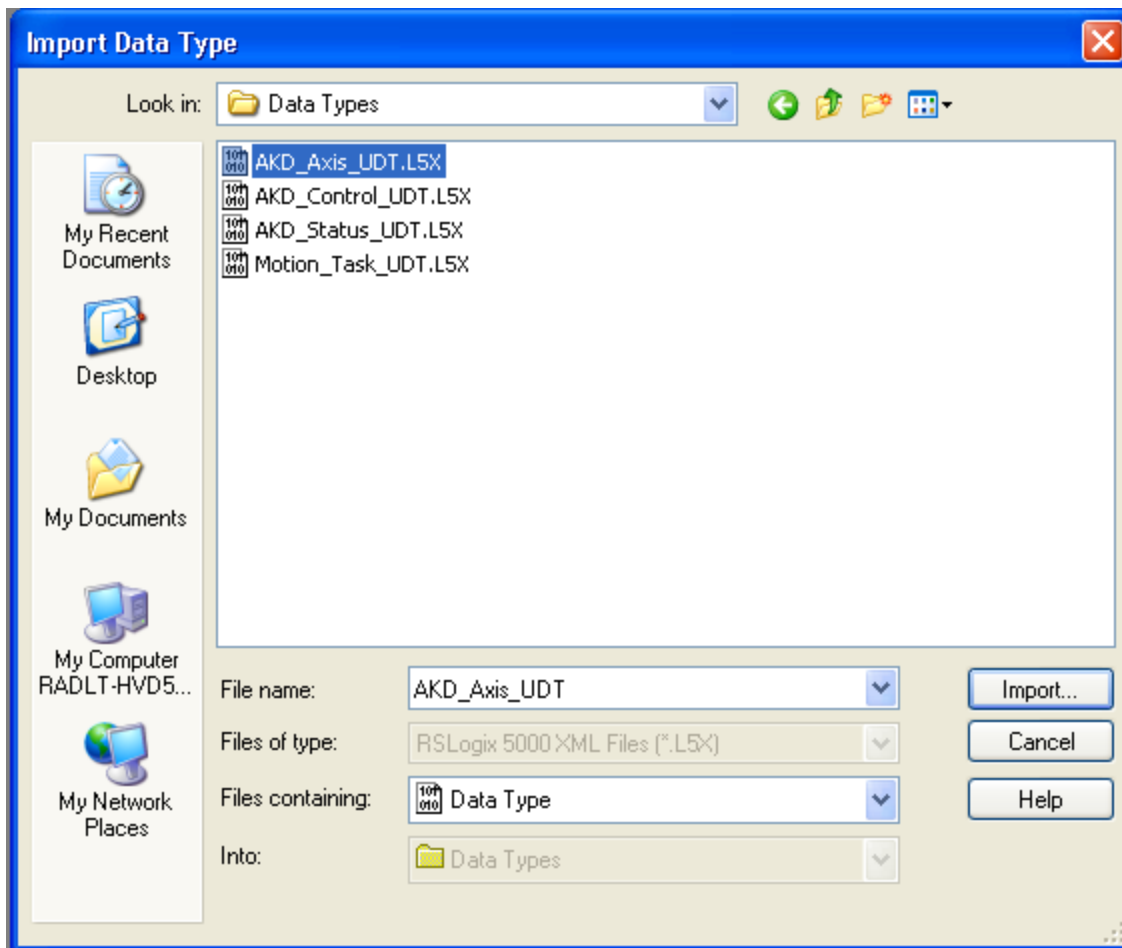

Figure 4-7: Selecting a UDT
2. Browse to the location of the AKD User Defined Data Type library and select the desired User Defined Data Type then click “Import...” (Figure 4-7: Selecting a UDT)